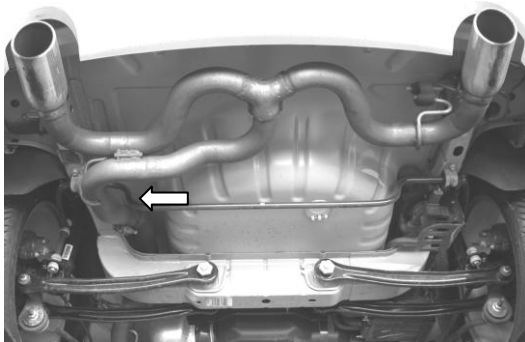

Figure 1
1. Unbolt the clamp shown in figure 1.